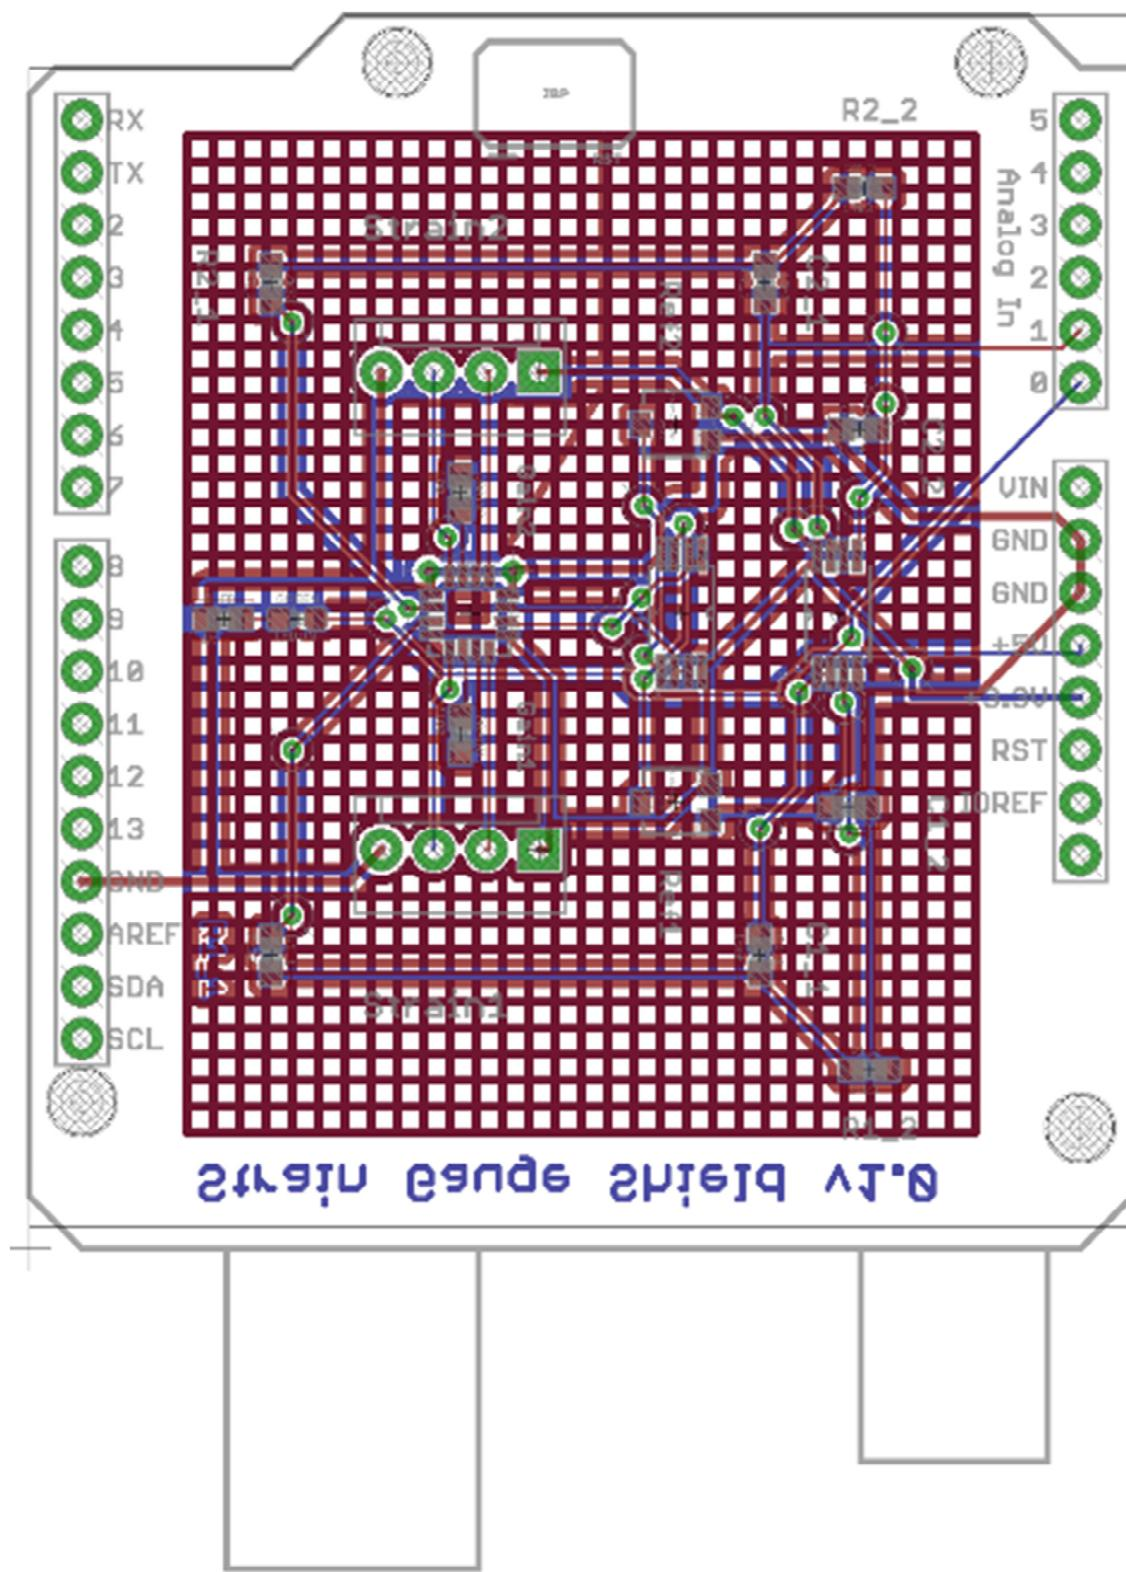

Figure 2: SGS Shield Board layout v1.0 with ground grid
- The gain (amplification) per channel through the amplifier is dependent on the resistor value RGAIN1/2 marked as Gain1/Gain2 on the board layout Figure 2: SGS Shield Board layout v1.0. The gain factor needs to be picked based on the specific application and sensitivity of the total Wheatstone bridge with the strain gauges incorporated.